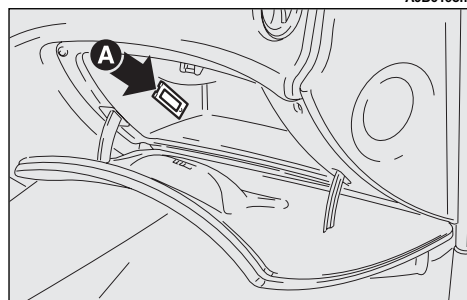

fig. 61
- Remove the light pushing with a screwdriver on the tab (**A-fig. 61**).